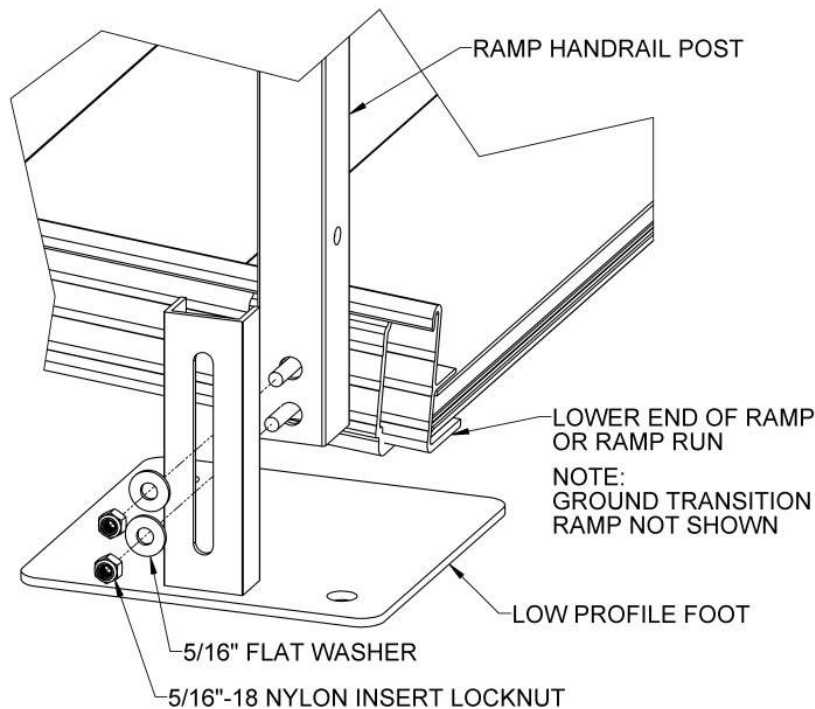

FIG. 3.7
- 👉 In situations where the lower end of a ramp or ramp run is too close to the ground to install normal feet and feet are needed due to ground or other conditions, special welded low profile feet (part no. PRLWALP). are available (FIG 3.7).
- 3.3.8. Remove the 5/16"-18 nylon insert locknuts and 5/16" flat washers attaching the ramp handrail post (if already installed), position the low profile foot so the foot is oriented under the ramp and the channel leg wraps around the ramp post. Reinstall the locknuts and flat washers, adjust height as described below then tighten fasteners securely. Repeat on the opposite side (FIG. 3.7).